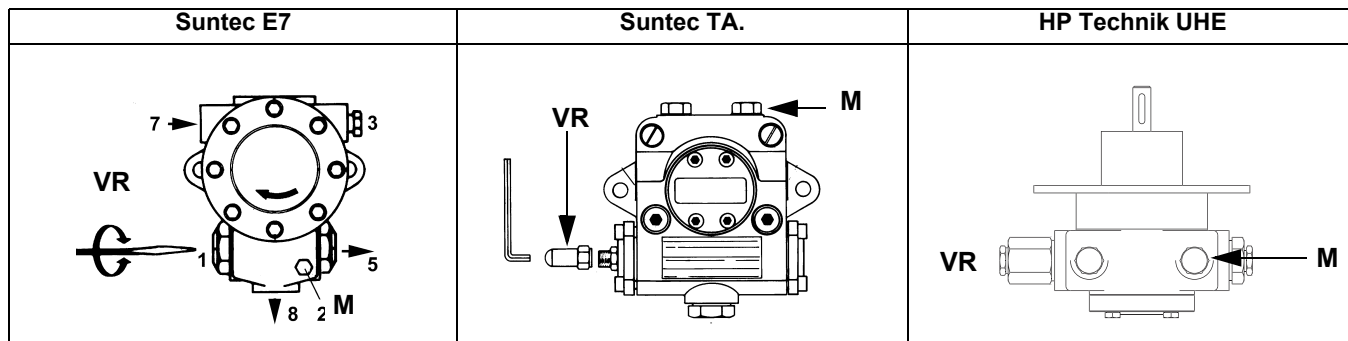
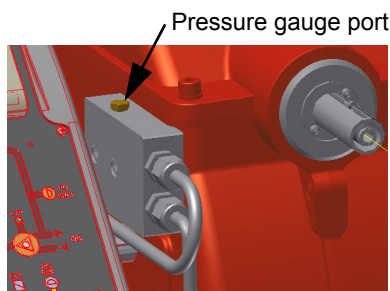

Fig. 10
Fig. 11
- 3 bleed the air from the **M** pressure gauge port (Fig. 10) by loosening the cap without removing it, then release the contactor.
- 5 Only if necessary, adjust the supply pressure as follows (see related paragraph); insert a pressure gauge into the port shown on Fig. 11 and act on on the pump adjusting screw **VR** (see Fig. 10) as to get the nozzle pressure at 20bar (Monarch or Fluidics nozzles - see page 42-38).